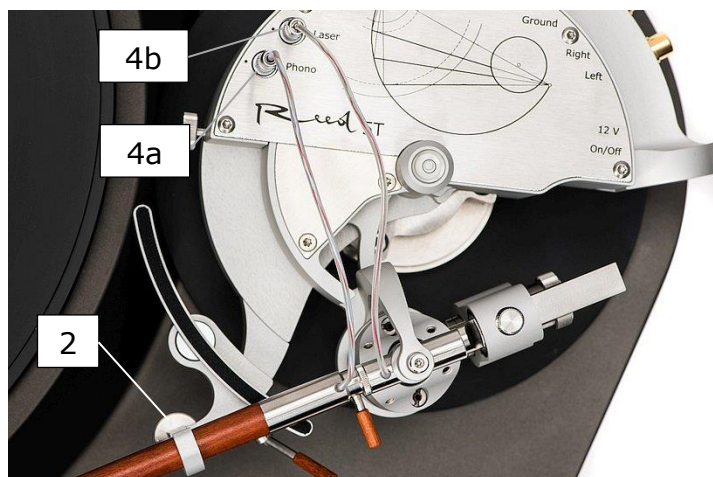

Figure 12
- k) Plug tonearm's cables to the Phono and Laser connectors [4a] and [4b] (Figure 12), set tonearm's armwand to a rest position and gently tighten armtube fixing screw [2].